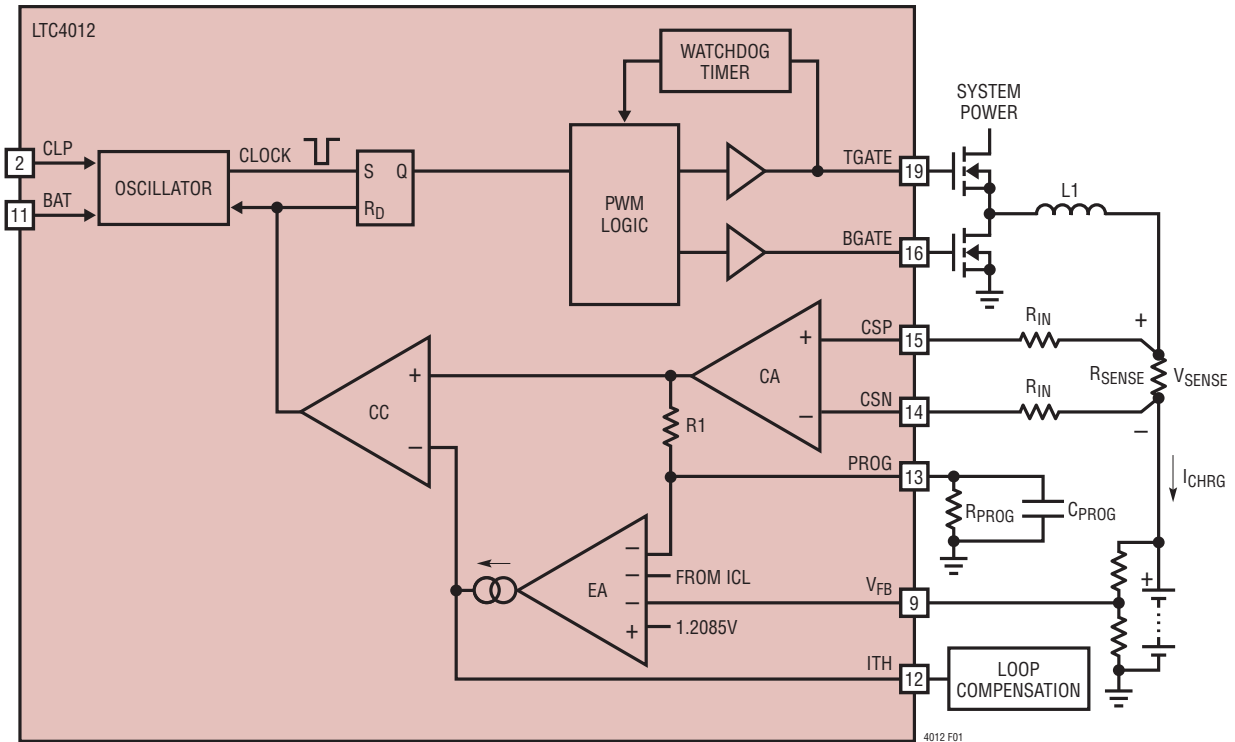

Figure 1. PWM Circuit Diagram
**CSN (Pin 14):** Charge Current Sense Negative Input. Place an external input resistor ( $R_{IN}$ , Figure 1) between this pin and the negative side of the charge current sense resistor. Operating voltage ranges from  $(BAT - 50mV)$  to  $(BAT + 200mV)$ .
**CSP (Pin 15):** Charge Current Sense Positive Input. Place an external input resistor ( $R_{IN}$ , Figure 1) between this pin and the positive side of the charge current sense resistor. Operating voltage ranges from  $(BAT - 50mV)$  to  $(BAT + 200mV)$ .
The LTC4012 is a synchronous step-down (buck) current mode PWM battery charger controller. The maximum charge current is programmed by the combination of a charge current sense resistor ( $R_{SENSE}$ ), matched input resistors ( $R_{IN}$ , Figure 1), and a programming resistor ( $R_{PROG}$ ) between the PROG and GND pins. Battery voltage is programmed with an external resistor divider between FBDIV and GND (LTC4012) or two digital battery voltage select pins (LTC4012-1/LTC4012-2). In addition, the PROG pin provides a linearized voltage output of the actual charge current.
When the LTC4012 is charging, the voltage on the PROG pin varies in direct proportion to the charge current. Referring to Figure 1, the nominal PROG voltage is given by
The LTC4012 uses a synchronous step-down architecture to produce high operating efficiency. The nominal operating frequency of 550kHz allows use of small filter components. The following conceptual discussion of basic PWM operation references Figure 1.